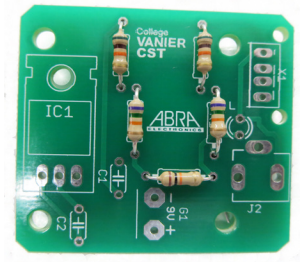

Fig. 3
3. Install and solder R3 (10K) resistor as per fig.3. Trim leads with diagonal cutter.